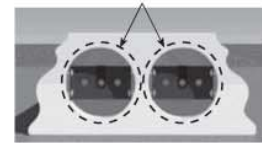

FIGURE 4C
C) Apply a 1/4" bead of urethane base adhesive on each end of the BALUSTER BOTTOM RAIL (FIG. 4C).